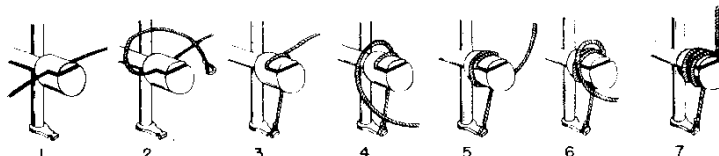

Figure 2—Elevator Windlass Stringing Procedure
The step-by-step procedure for stringing the elevator windlass is shown in Figure 2. (The view is from the rear of the mechanism.) This is done with the elevator up. Start by inserting the metallic cord in the slot as shown in 1. Then loop the left-hand free end over (2) and solder it to the lug provided at the bottom of the vertical shaft (3). The other free end is then given two turns around the pulley, first on one side of the first half turn (4-5) and then on the other side (6-7). In making these two loops, the free end of the cord passes on *this* side of the end which is already secured. Similarly, in view 2, the end which is to be secured to the bottom of the shaft, passes on *this* side of the right-hand free end of the cord. Observe these relationships. Finally, after completing the seven steps shown, pull the upper end of the cord through the hole in the top of the elevator mechanism and solder it to the spring provided.